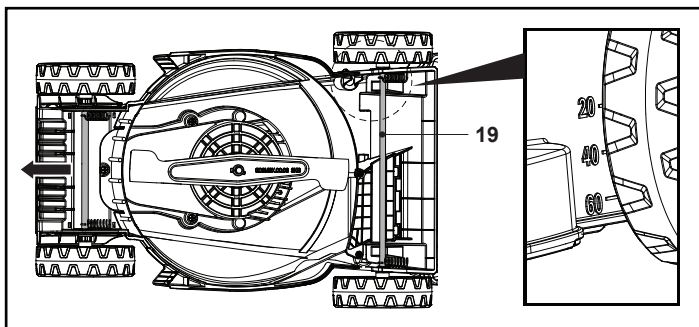

Fig. 6
2. Grasp the wheel axle (19) on both sides (Fig. 6).
3. Pull evenly on the axle and let it snap into the desired position (Fig. 6).